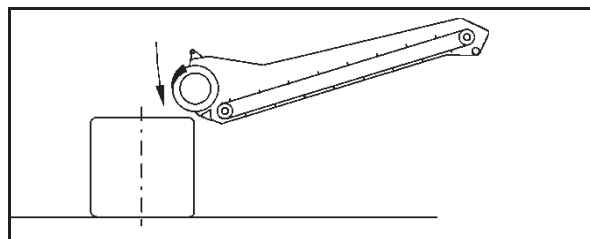

Fig. 175
- Pick up round bales:** Move close to the round bale such that the scraper bar tightly fits the round bale (Fig. 175).